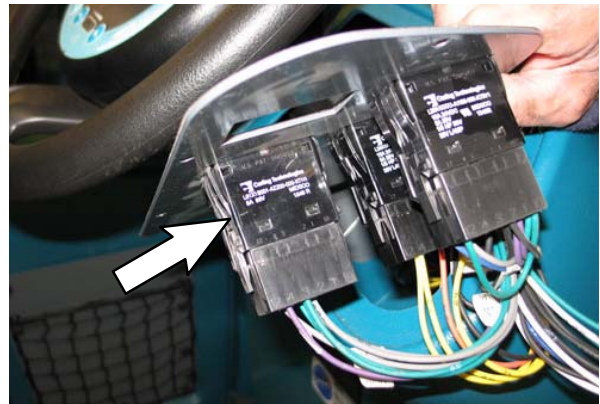

FIG. 13
- 16. Orient the switch (17) so the text on the switch is to the right side of the machine like the other switches in the control panel and insert the switch into the control panel. (Fig. 13)